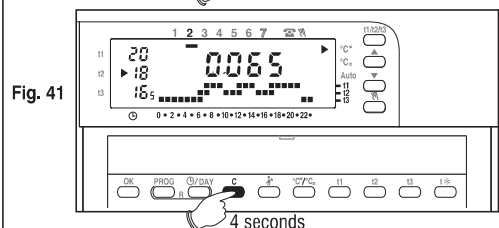

Fig. 41
- **To display the total hours of operating from the beginning of the season:** press **C** pressed for at least 4 seconds and the total hours of operating will appear (Fig. 41).